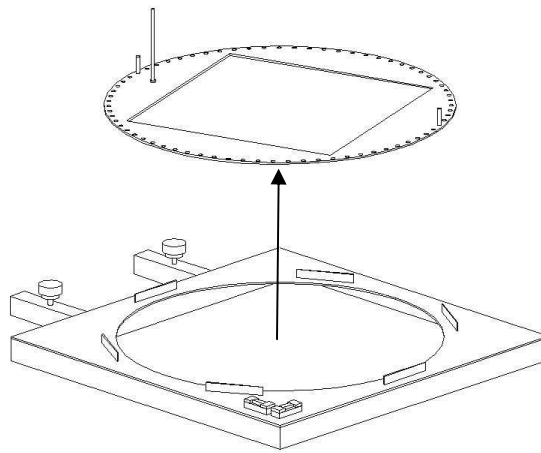

Figure 1
- 1) Remove the top plate from the template used for the construction of helical pillars (DM-GIR 38) (with the central square hole). Figure 1